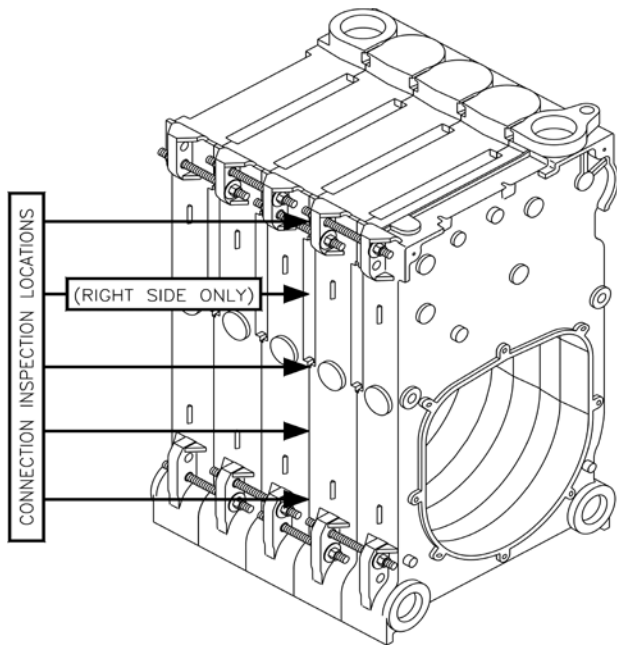

Figure 9: Connection Inspection Locations and Manual Draw-Up Tie Rod Pattern
- l. The large draw-up rod lugs with dual holes are cast in the four (4) corners of each casting. STARTING WITH THE UPPER HOLES, install four (4) 5/8" x 9/4" long draw-up rods along with washers and nuts (see Figure 9).
- m. DRAW UP SECTION SLOWLY AND EVENLY using an alternating pattern starting with the upper right lug (closest to the 7" port) and proceeding to the lower left, lower right and finishing with upper left lug. When you start, grind surfaces between adjoining sections should be approximately 3/8" apart. Use three (3) or four (4) passes at tightening the four (4) draw-up rods a little at a time so that sections are pulled up evenly. During the last pass, pay close attention to the silastic sealant as it squeezes when the sections come in close contact. The silastic sealant should continue to squeeze out wafer thin until the sections are connected metal to metal. If the silastic has stopped squeezing out from the connection and the sections still do not appear to be drawn metal to metal, use a feeler gauge to measure any gaps at the locations identified in Figure 9. (Unless specified otherwise, gaps should be measured at these locations on both sides of the sections.) A maximum gap of .025" is acceptable. Measure gaps at the outer edge of the connection only, making sure not to puncture the gasket created by the silastic and rope.